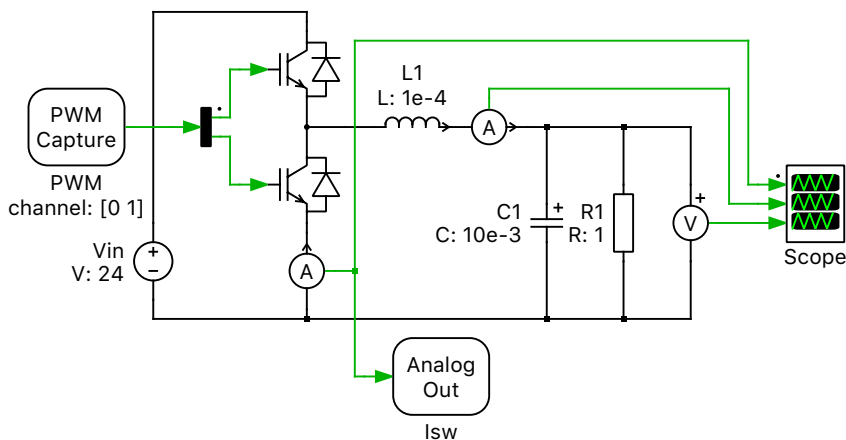

Figure 6: Buck converter model with Analog Out block added
- 1 Place an Ammeter in series with the low side switch of the buck converter. Note the direction of the Ammeter shown in Fig. 6.